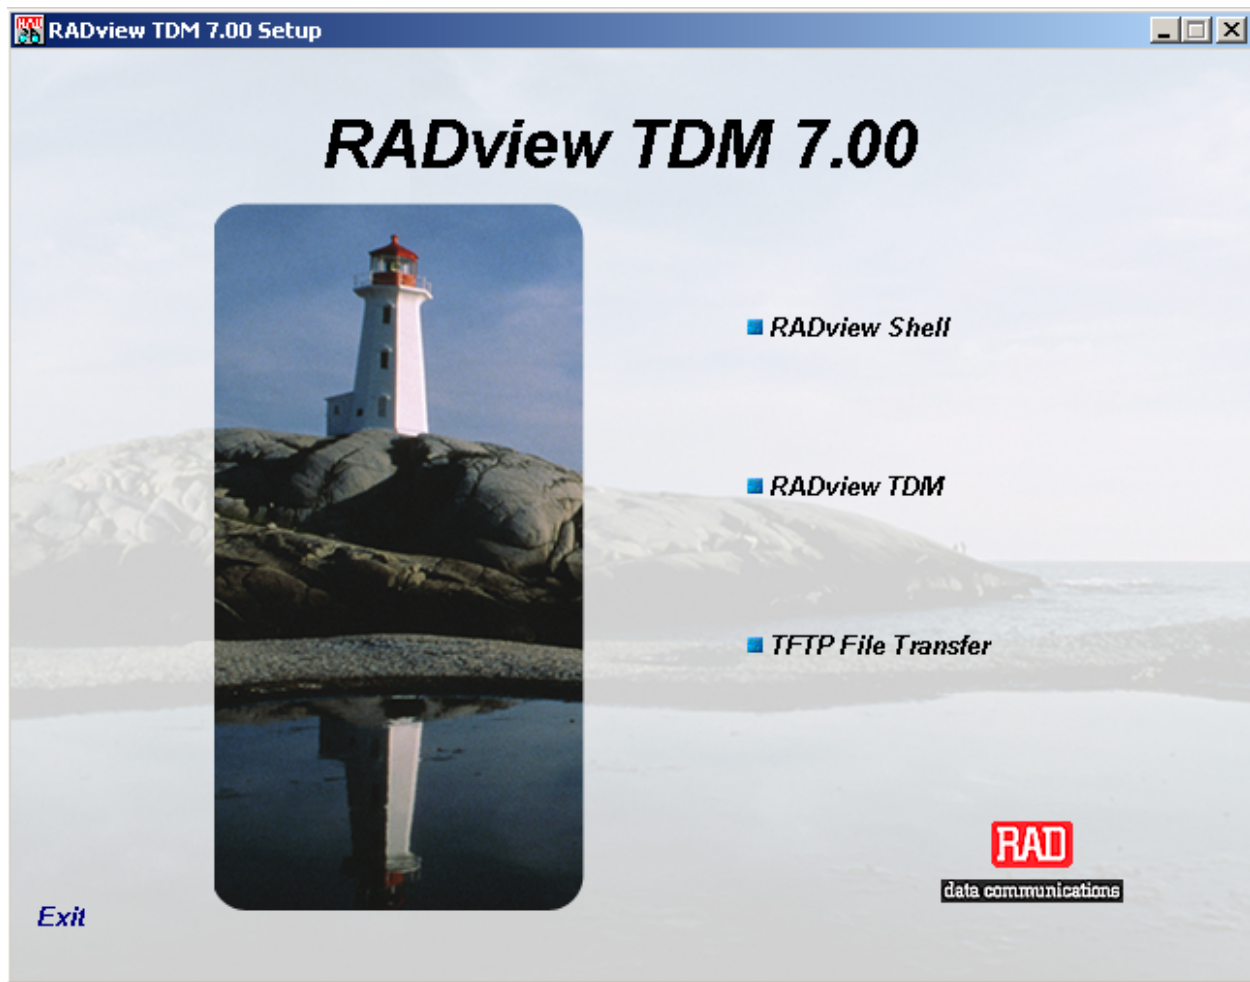

Figure 2-11. RADview-PC/TDM Setup Dialog Box
The RADview-PC/TDM setup dialog box appears (see Figure 2-11).
1. In the RADview-PC/TDM setup dialog box (see Figure 2-11), position the mouse over **RADview TDM** until it is highlighted (blue). Click to start the installation.
1. In the RADview-PC/TDM setup dialog box (see Figure 2-11), position the mouse over **TFTP File Transfer** until it is highlighted (blue). Click to start the installation.